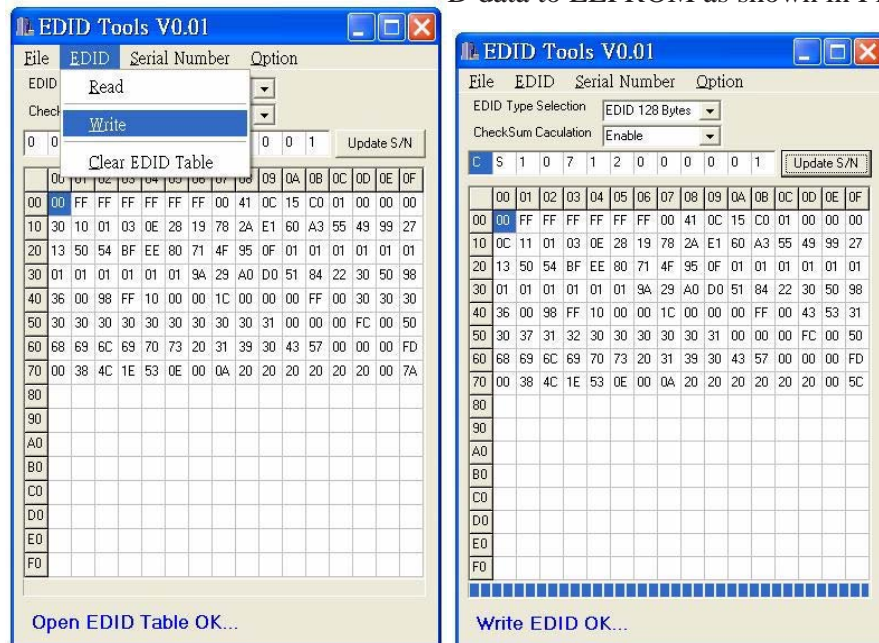

Fig.9
5. Press EDID->Write to write EDID data to EEPROM as shown in Fig. 9.